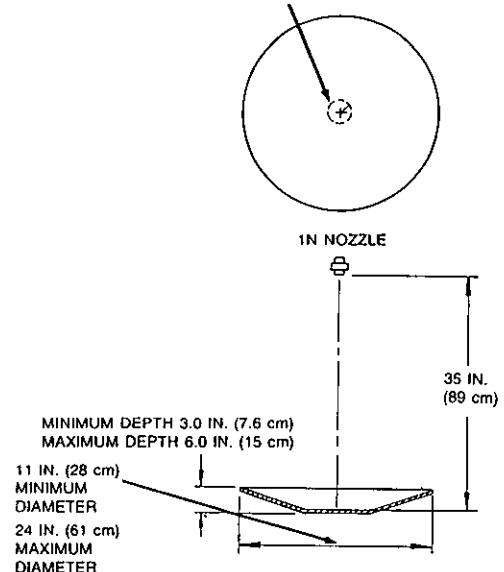

FIGURE 58c
- ▶ 3. A 1N Nozzle, Part No. 419335, will also protect a wok 11 in. (28 cm) minimum diameter up to 24 in. (61 cm) maximum diameter. The wok depth must be no less than 3 in. (8 cm) and no greater than 6 in. (15 cm). The nozzle tip is stamped with 1N indicating that this is a one-flow nozzle and must be counted as one flow number. When using this nozzle, the nozzle must be positioned as shown in Figure 58c.